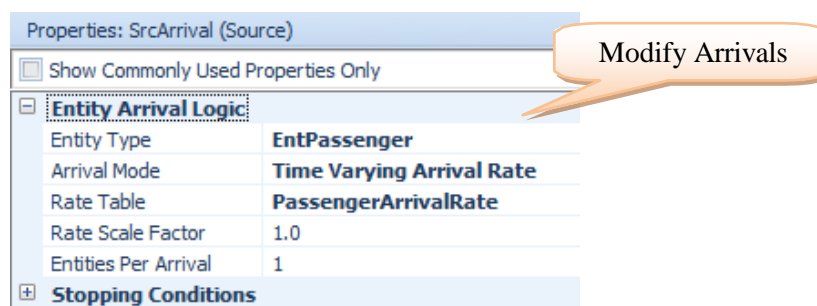

Figure 4.7: Specifying a Time Varying Arrival Rate
Step 4: Modify the **SrcPassengersArrive** source accordingly (see Figure 4.7 for details). *SIMIO* refers to the NHPP as a “Time Varying Arrival Rate” **ARRIVAL** MODE.